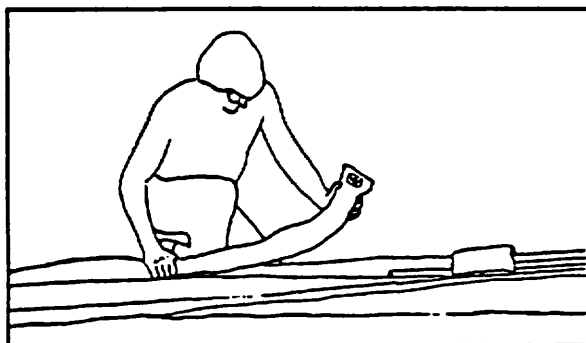

Figure 69
13) Put the batten bag on the battens. Stow the battens between the rear leading edges. Stow the nosecone under the forward velcro sail tie. (Figure 69, 70) Zip up the bag.